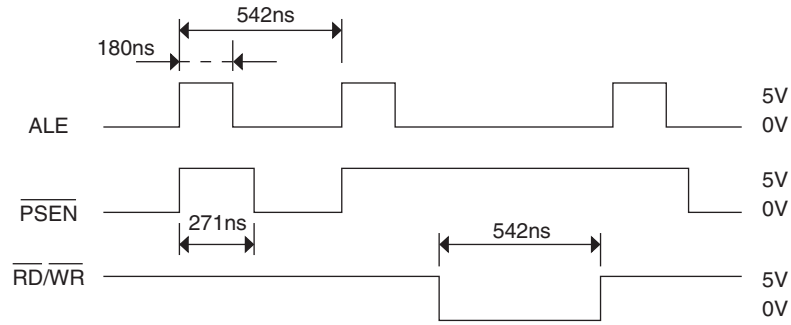

Figure B-3-3
- Ⓐ • Yes Are ALE, $\overline{\text{PSEN}}$, $\overline{\text{RD}}$, $\overline{\text{WR}}$, signals as specified in Figure B-3-3?